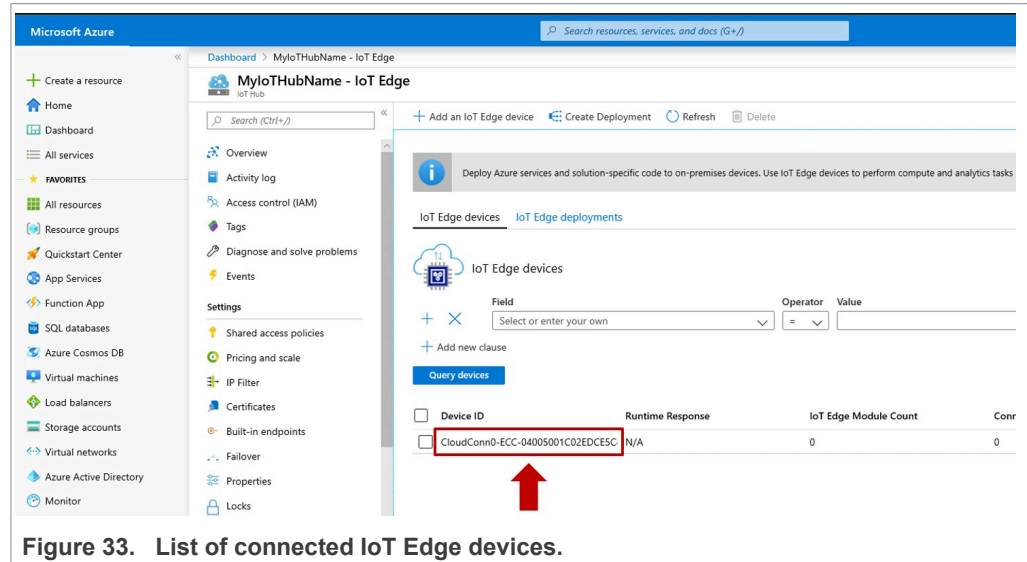

Figure 33. List of connected IoT Edge devices.
3. The device should appear in the list of IoT Edge devices, as shown in Figure 33.